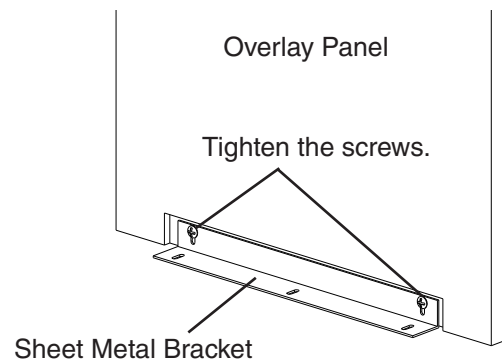

Fig. 23
- 4) Remove the overlay panel from the door and tighten the two M4×8 truss head screws securing the sheet metal bracket to the overlay panel. See Fig. 23.